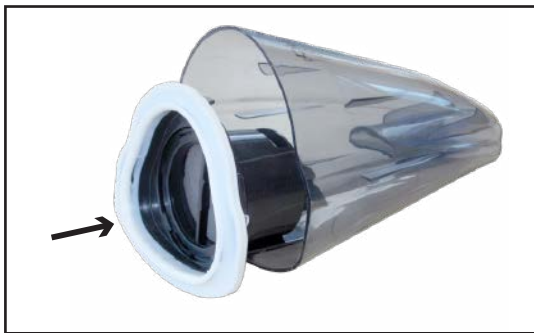

FIG.2
- Reinsert the filter into the collection container (FIG.2).